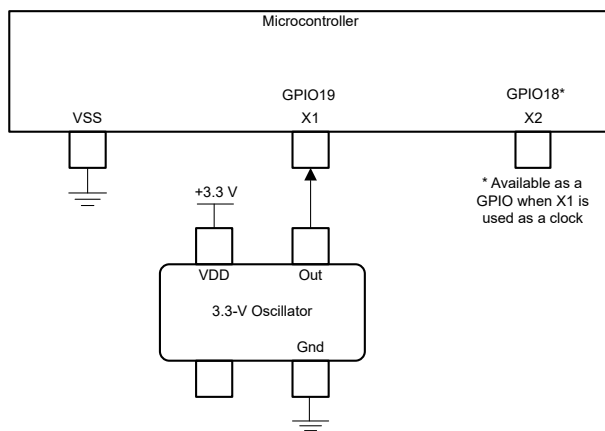

Figure 6-11. Single-ended 3.3-V External Clock
- A single-ended 3.3-V external clock. The clock signal should be connected to X1, as shown in Figure 6-11, with the XTALCR.SE bit set to 1.